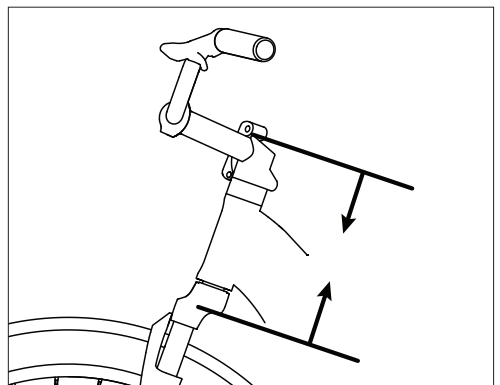

Fig. 49: Apply clamping force to tension headset
5. With the stem aligned parallel with the front wheel, apply a clamping force between the top of the stem assembly and the fork crown. This will press the stem down onto the headset bearings (Fig 49).